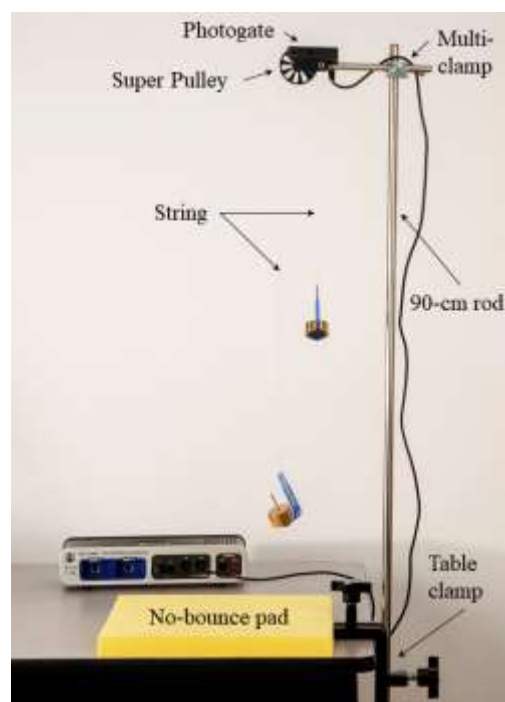

Figure 1: Atwood's Machine Setup
The purpose of this lab is to study an Atwood's Machine apparatus, built with a PASCO Super Pulley, as shown in Figure 1. The Photogate is used to measure the velocity of both hanging masses as one moves up and the other moves down. The slope of the graph of velocity vs. time is the acceleration of the system. Careful measurement when there is no net force allows the student to compensate for friction.
1. Fasten the table clamp and the 90-cm rod to the edge of the table as shown in Figure 1.
5. Position the yellow no-bounce pad (see Figure 1) below the photogate to protect the falling mass hanger when it reaches the table.